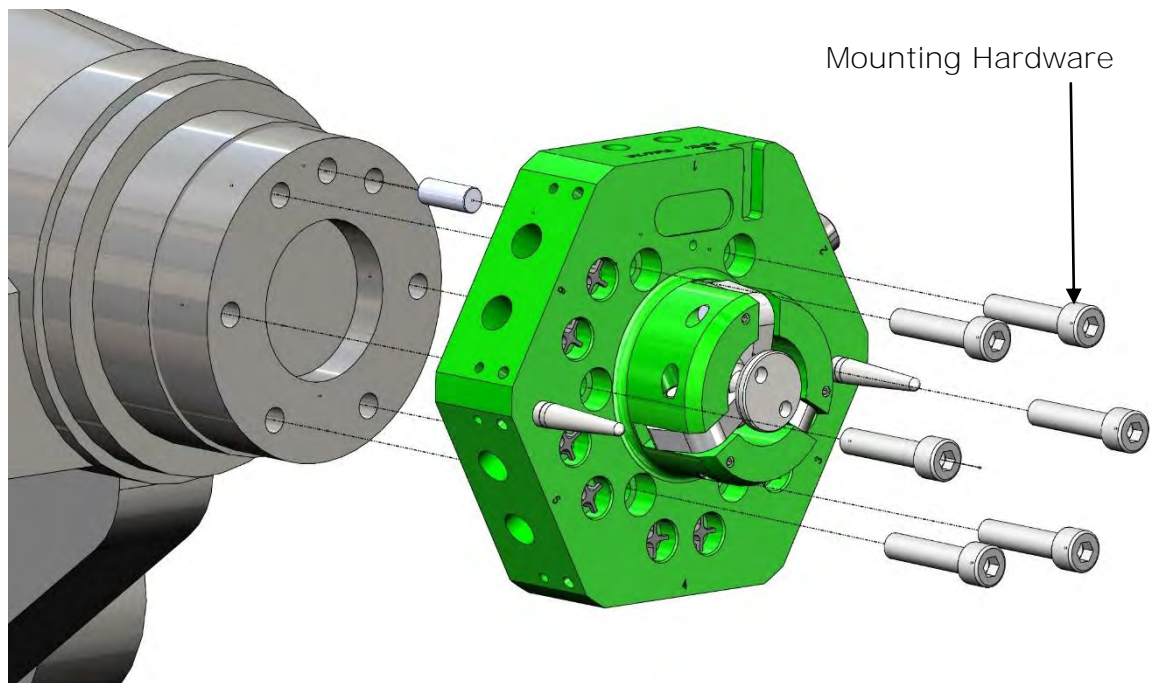

Figure 5.1-1. E80 Robot Adaptor Installation w/ M8 Hardware
1. Locate the Robot Adaptor to the manipulator mounting flange utilizing the locating boss and one (1) M8 locating dowel (Figure 5.1-1).